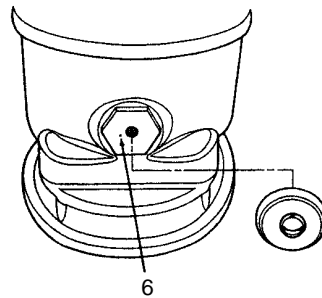

Figure 9
- (13) Orifice Vent (6) - Check and clean orifice vent M3179 to insure it is clean and free of obstruction. Reference paragraph 3.B of this bulletin. Maximum orifice diameter is .025 inch. See Figure 9.